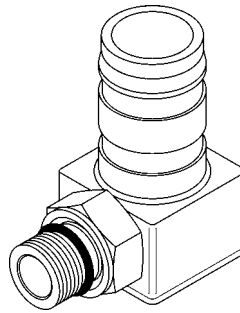

Figure 3 O Ring Location
- m. Fit O ring onto new fitting (see Figure 3).
Ensure the O ring is located centrally in the recess of the boss (see Figure 3).